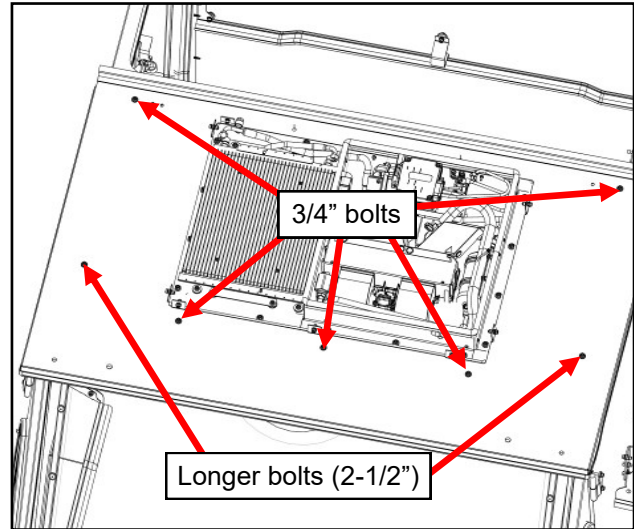

Fig. 12.2 Front Canopy
- 12.2** Per figure 12.2, place the front canopy on top of the cab and align to the holes in the headers and windshield support. Insert the longer 1/4-20 bolts with plastic washers through the outer, front holes in the canopy, through the holes in the ROPS and through the lower flange of the headers and secure with nuts. Insert shorter 1/4-20 bolts with plastic washers through the remaining holes through the canopy as shown and secure with nuts.